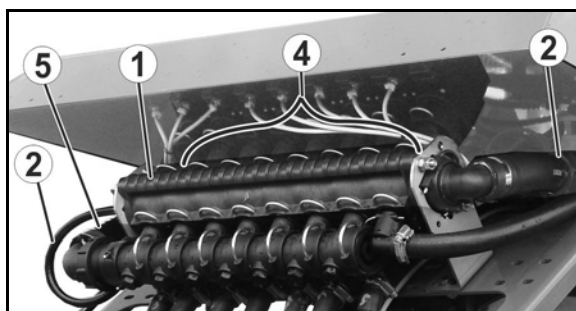

Fig. 83
Lower the sprayer boom fully using height adjustment, until the catching lugs (**Fig. 83/1**) grasp the catching sockets (**Fig. 83/2**) aufnehmen.
**Fig. 83** shows the locked sprayer boom.
If the catching lugs (**Fig. 83 /1**) do not grasp the catching sockets (**Fig. 83 /2**), align the sprayer boom using tilt adjustment.